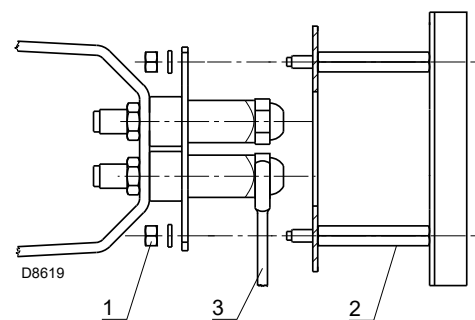

Fig. 14
- Remove the nuts 1) (Fig. 14) and the diffuser disc assembly 2)
- Use spanner 3) (Fig. 14) to change the nozzles.